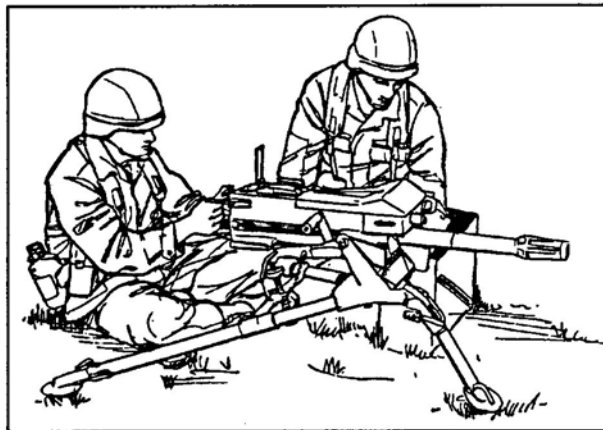
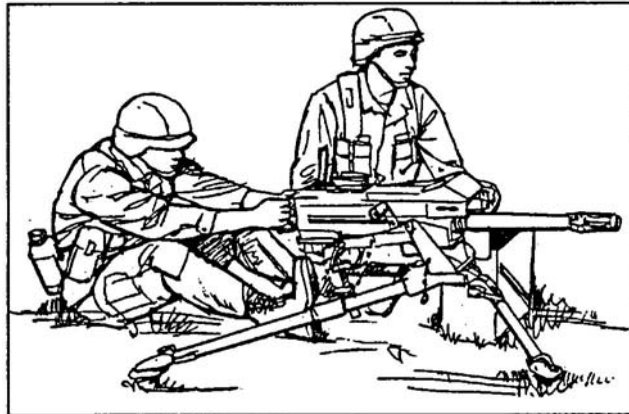

Figure 2. Seated firing position, legs crossed.
Figure 3. Seated firing position, legs braced.
- (2) Legs crossed. Cross your legs and place your elbows on the inside of your thighs for support when firing the weapon (Figure 2).
- (3) Legs braced. Extend your legs, brace them on the trail legs of the tripod, and place your elbows on the inside of your thighs for support (Figure 1, Figure 2, and Figure 3).